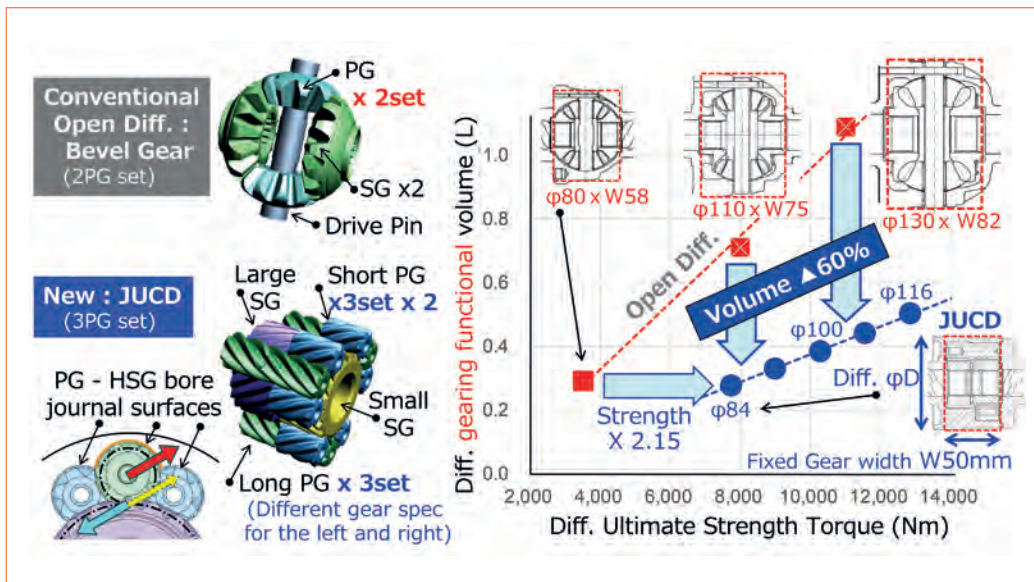

Figure 6: JUCD® (JTEKT Ultra Compact Diff®)
Compared to typical bevel gear type open differential, JUCD® (JTEKT Ultra Compact Diff®) has an increased gear mesh quantity and wider gear mesh width at larger gear mesh diameter between planet gear (PG) and side gear (SG). This is possible by using small diameter parallel axis planet gears which are directly supported by the housing bore similar with journal bearing structure. As a result, JUCD has higher torque density (= strength/volume) than typical open diff. Required differential gearing functional volume for JUCD will be less than half compared with open diff. for the same strength. (Fig. 6)